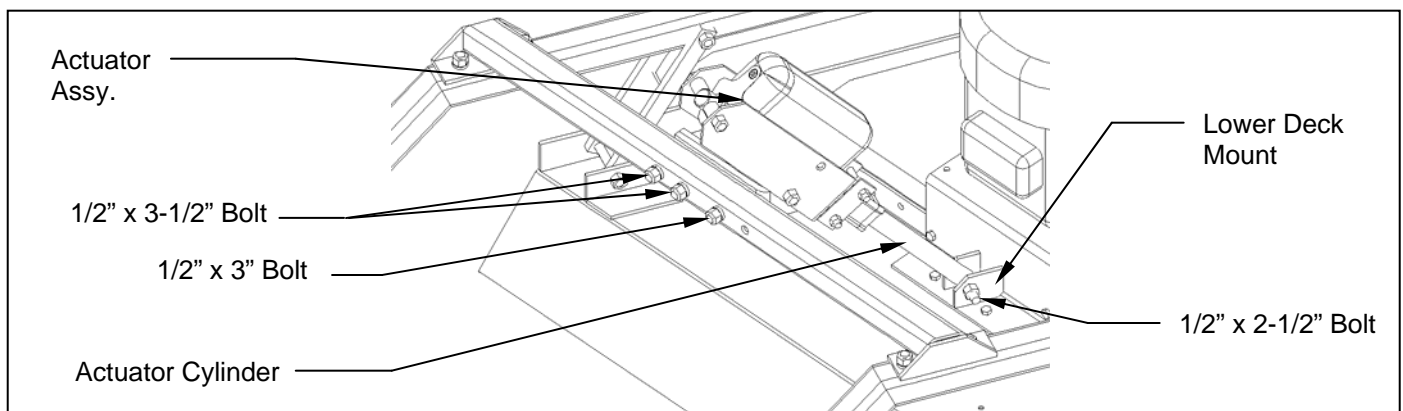

Figure 2. Actuator Assembly Installation
B. INSTALLATION OF THE ACTUATOR ASSEMBLY (Refer to Figure 2.)
2. Using the 1/2" x 3" and 1/2" x 3-1/2" bolts, nuts and lock washers removed in the previous section, secure the actuator assembly to the cross brace tube as shown in figure 2.
2. Remove the 1/2” x 2-1/2” bolt and lock nut from the lower deck mount. Attach the battery clips on the lift control wiring assembly to the appropriate terminals on a battery (red attaches to the positive terminal and black to the negative terminal). Stand back and activate the appropriate “down” switch until the actuator cylinder hole aligns with the lower deck mount. After achieving alignment, attach the actuator cylinder with the 1/2” x 2-1/2” hex head bolt and secure the bolt with the provided lock nut. **See figure 2.**